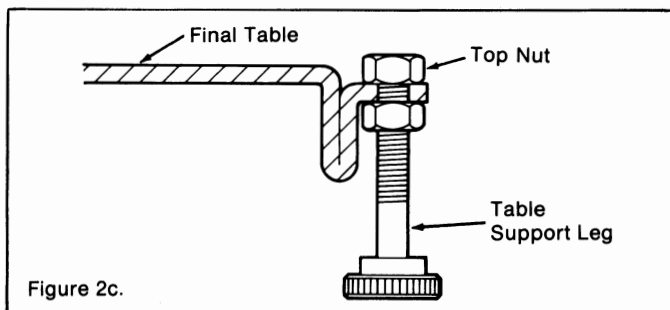

Figure 2c.
3. Thread a 1/4 - 20 nut onto the exposed thread of the table support leg and tighten (figure 2c).